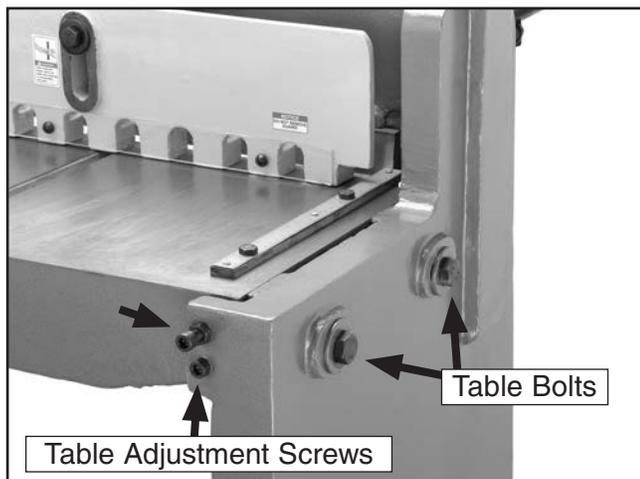

Figure 12. Adjustment screws.
1. Loosen, but do not remove the two table bolts and table adjustment screws on both sides of the foot shear (see **Figure 12**).